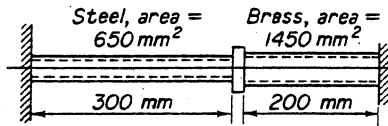

Figure 1-48 Problem 8.
8. The members in Fig. 1-48 have a neat fit at the time of assembly. Find the force caused by an increase in temperature of 50°C. Supports are immovable. Ans. $P = 96,720 \text{ N}$.